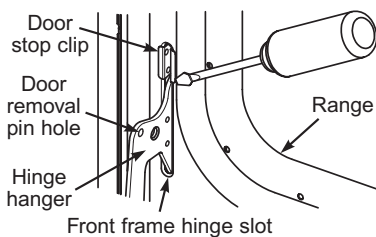

Figure 1
1. Use a putty knife or screwdriver and insert it at the bottom corner of the door stop clip. See Figure 1.